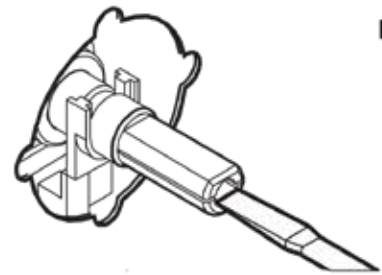

Fig. A1
2. Remove the knob of the corresponding gas tap and insert a screwdriver in the end part of the tap or in the screw (fig. A1, A2).